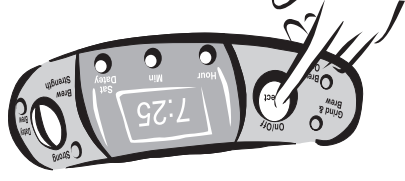

Figure 3
5. Press the SELECT button once to set the coffeemaker to GRIND & BREW. The GRIND & BREW light will turn on to signal that the coffeemaker is grinding (the grinder operates for 45 seconds). See Figure 3. You may select the brew strength at this time.